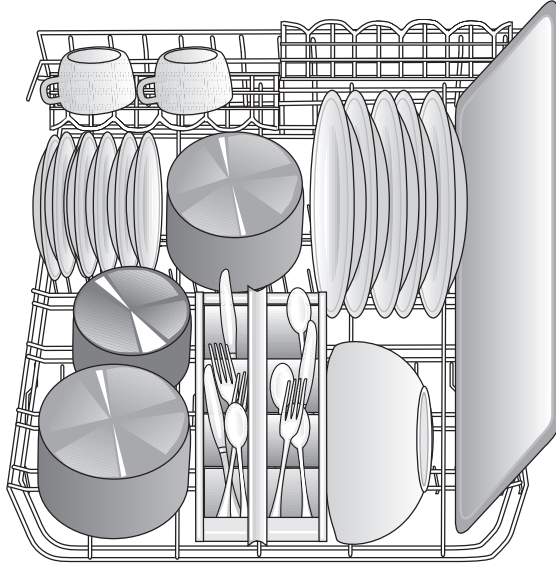

Figure 5. Lower Rack with Heavier Soiled Fans
- Large and/or heavily soiled items should be placed in the lower rack of the dishwasher. Heavily soiled pots and pans should be placed face down. See **Figures 5 and 6**.